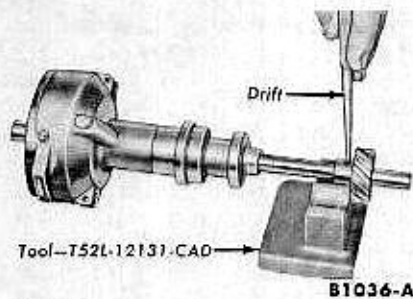
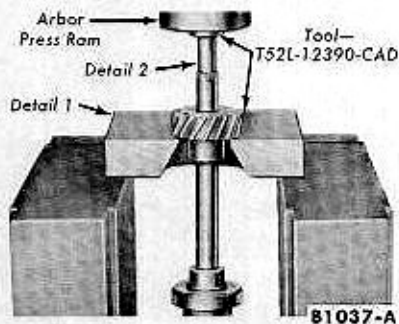
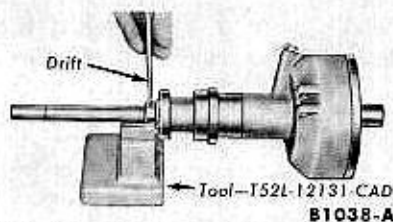

FIG. 6—Gear Pin Removal or Installation
FIG. 7—Gear Removal
FIG. 8—Collar Retaining Pin Removal or Installation
9. If the gear and shaft are to be used again, mark the gear and shaft so the pin holes can be easily aligned for assembly. Remove the gear roll pin (Fig. 6), then remove the gear (Fig 7).
10. Remove the shaft collar roll pin (Fig 8).
4. Place the collar in position on the shaft and align the holes in the collar and shaft, then install a new pin (Fig. 8).
7. Check the gear location dimension. With all end play removed (gear pushed toward the distributor base), this dimension should be 5.111-5.116 inches from the bottom face of the gear to the bottom face of the distributor mounting pad (Fig. 14). Install the gear retaining pin (Fig. 8).
tach the distributor shaft supporting tool to the distributor and place the assembly in a press (Fig. 15). Insert a 0.022-inch feeler gauge between the centrifugal advance adjusting bracket plate and the top of the bushing. Tighten the backing screw on the tool enough to remove all shaft end play. Place the collar in position and support the shaft. While holding the collar in position against the distributor housing, drill a $\frac{1}{8}$ -inch hole through the shaft using the access hole in the collar as a pilot. With the supporting tool and the 0.022-inch feeler gauge still installed, install the drive gear (Fig. 14). Remove the assembly from the press and remove the supporting tool and feeler gauge. Drill a $\frac{1}{8}$ -inch hole through the gear and shaft, using the hole in the gear shoulder as a pilot. Install a new pin in the gear (Fig. 6) and the collar (Fig. 8).